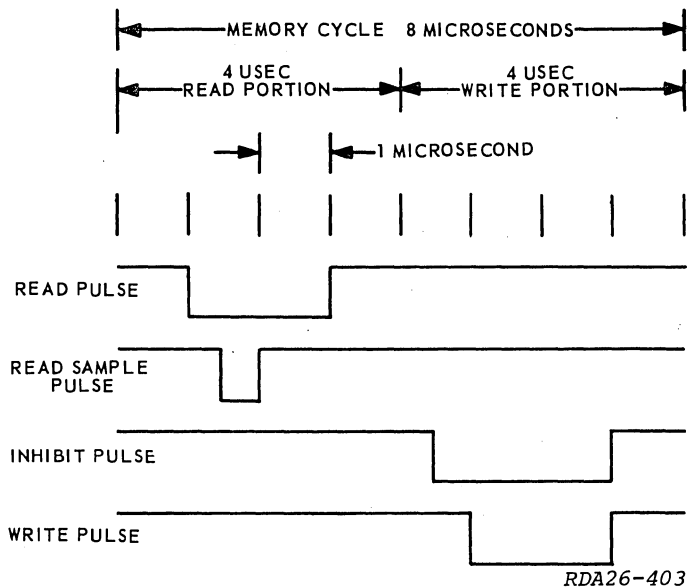

Figure 1-13. Memory Cycle Timing
**CORE MEMORY TIMING.** The same timing sequence is used whether the computer is to read information from the core memory or write information into the core memory. The total time taken by the complete timing sequence is called the "memory cycle," and it is one of the principal speed determining factors for a ferrite core memory. Each memory cycle consists of two portions, the first of which is called the read portion and the second of which is called the write portion. Figure 1-13 shows the sequence for all the pulses that could occur during a memory cycle. Whether we want to read from or write into memory will control which pulses are generated and used. It should be noted that the 8 microsecond memory cycle time is only an example and will vary from system to system.
Read Memory Cycle. Assume that at the beginning of the read memory cycle, core location  $X\emptyset Y3$  has been selected by external circuits to be read from. The read portion of the memory cycle in figure 1-13 will generate both the read pulse and the read sample pulse. The read pulse will cause the  $X\emptyset$  and  $Y3$  address selection lines to be pulsed with negative half-select read currents. This will cause the selected core in all four planes to be set to the zero state. If a large signal is received by the sense amplifier connected to a given plane at this time, the selected core in that plane contained a one; if a small signal is received, the selected core in that plane contained a zero. (A small current flow in the sense winding would be caused by noise or circuit unbalance and can be disregarded.) The read sample pulse "strokes" the sense amplifiers at the time when current flow in the sense windings should be at a maximum. If planes 1 and 3 produce ones and planes 2 and 4 do not, the computer word that was previously stored was (MSD) 0101 (LSD). This word will be fed out to external circuits and also be written back into the memory array. The output of each sense amplifier is used to set a storage device to the one state during the read portion of a memory cycle (providing a sense amplifier output is present), and the contents of these storage devices is then used to control the inhibit drivers during the write portion of a read memory cycle. In our example, only the inhibit drivers connected to planes 2 and 4 will be enabled by signals from their respective storage devices and conduct during the write portion. The selected cores in these planes will remain in the zero state while the selected cores in planes 1 and 3 will be set to the one state by positive half-select address selection pulses applied to all four planes as a result of the write pulse. Thus, after the write portion of the read memory cycle, the selected cores will again contain 0101, just as they did before the memory cycle began. In addition, the computer word 0101 will still be in the external storage devices and available for use by the computer.